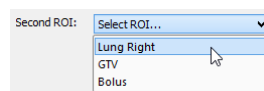

Figure 240 – Selecting the second ROI for algebra
4. Select the second ROI in the drop-down list that is displayed by clicking the **Second ROI** button (see Figure 240).